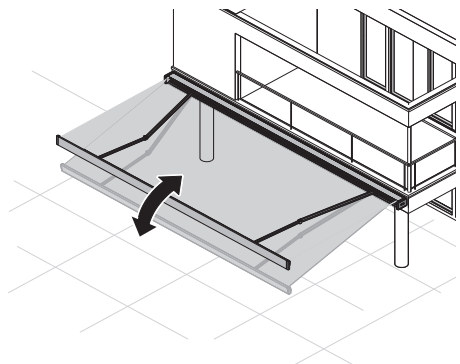

Fig. 22: Adjusting the incline
1. Insert the manual crank in the crank slot for the valance (fig. 22).